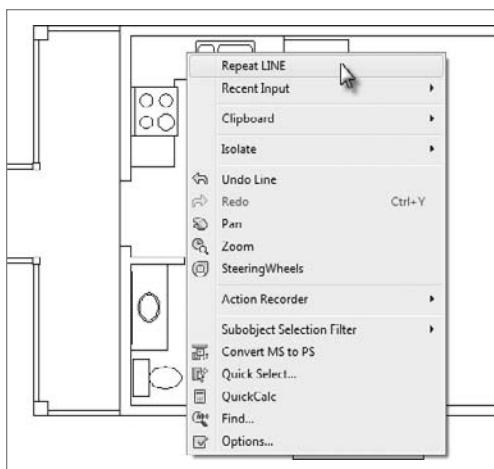

FIGURE 6.36 A second right-click context menu with additional commands available
10. Choose Enter from the menu, and then right-click again to open another context menu at the cursor, as shown in Figure 6.36.